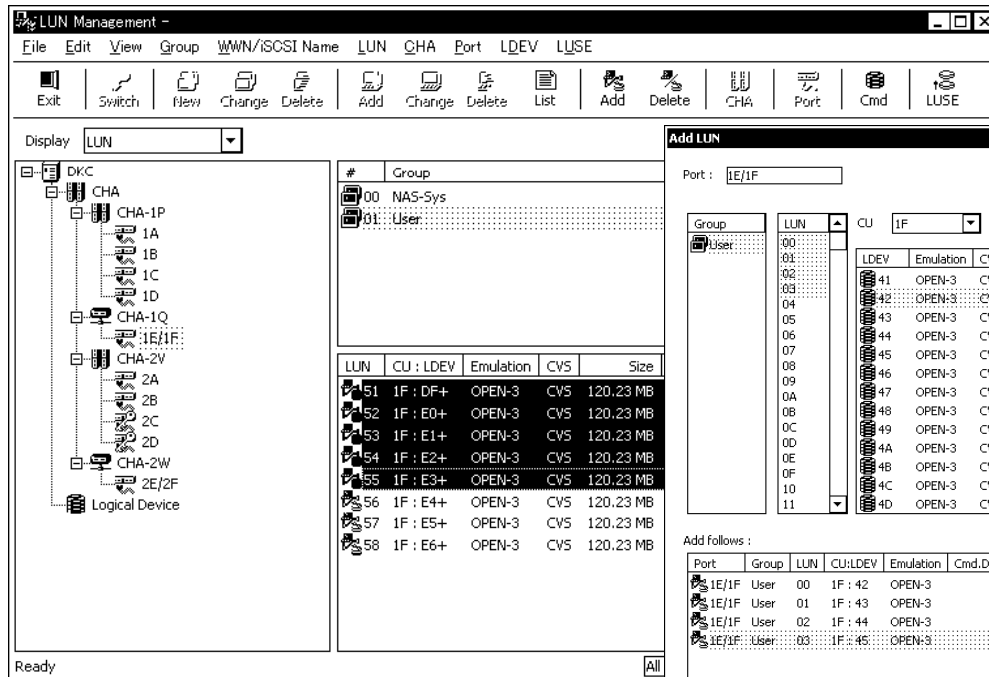

Figure 11.2.1 Main Window
When the port of “NAS” in the tree view is selected (CL) and the Display is set as “LUN”, “NAS-Sys” of the Group#00 and “User” of the Group#01 are displayed in the upper right list. Select “User” of the Group#01. (In an example shown in Figure 11.2.1, select the NAS port, 1E/1F from the tree diagram.)
- ① Select (CL) “User” of the Group#01 from the upper right list.
- ② Select (DR) [Add...] from the [LUN] menu in the Main window (Figure 11.2.1).
- ④ When the [OK] button is selected, items displayed in the “Add follows” list are newly registered and the window is returned to the Main window (Figure 11.2.1).